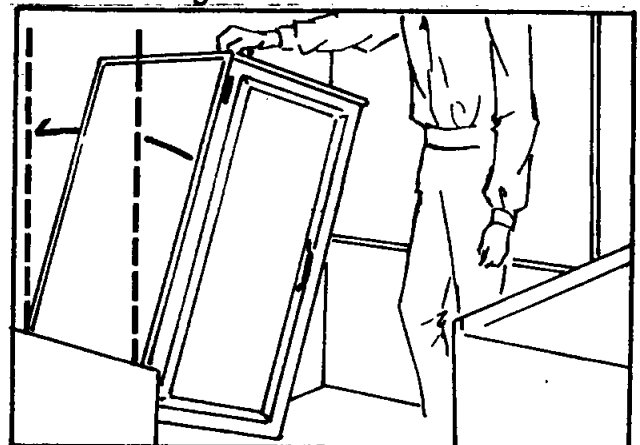

FIGURE 23
30. Grasp the handle located on the top of the wardrobe and raise the assembly until it is vertical. See Figure 23.